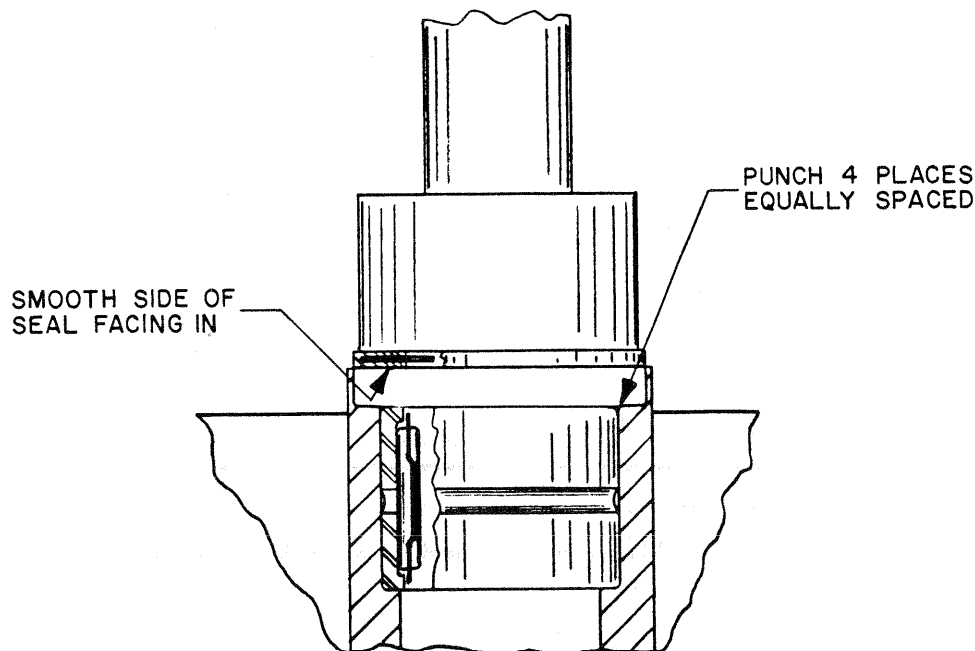

FIG. 11
- M2. Prick-punch bearing bore in four places of forward edge for bearing retention. Locate smooth side of grease seal and place facing in. Use proper tool and press into bore until it bottoms on the bearing race. See Fig. 11. Place second seal in the same position and press in until it bottoms on first seal. Do not over-press as damage will occur to seals.